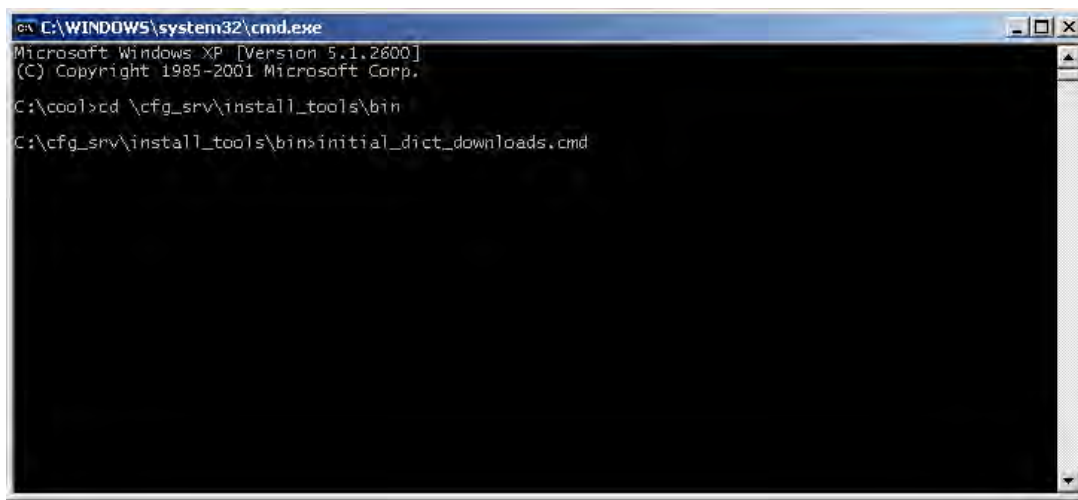

Figure 1-226. DOS Window - Start Download from NDSS
2. If not already logged on, click on **I Agree** and **Start System**. Then log on as **SEC Technician**. On the "PARS Supervisor User Interface" window menu bar, select **Tools** and **Command shell**. A Command window will popup with the prompt "C:\cool>" displayed (Figure 1-226).